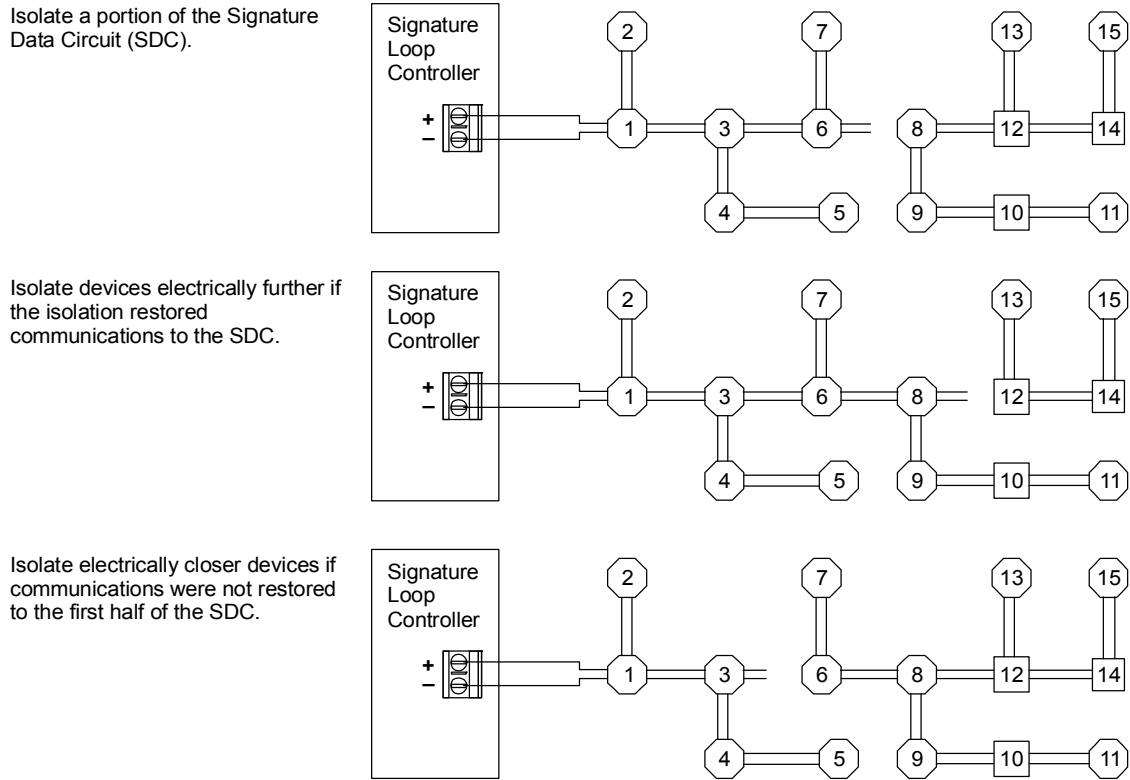

Figure 24: Typical isolation procedure
4. Isolate portions of the SDC to locate the cause (Figure 24).
3. Isolate portions of the SDC to locate the cause (Figure 24).